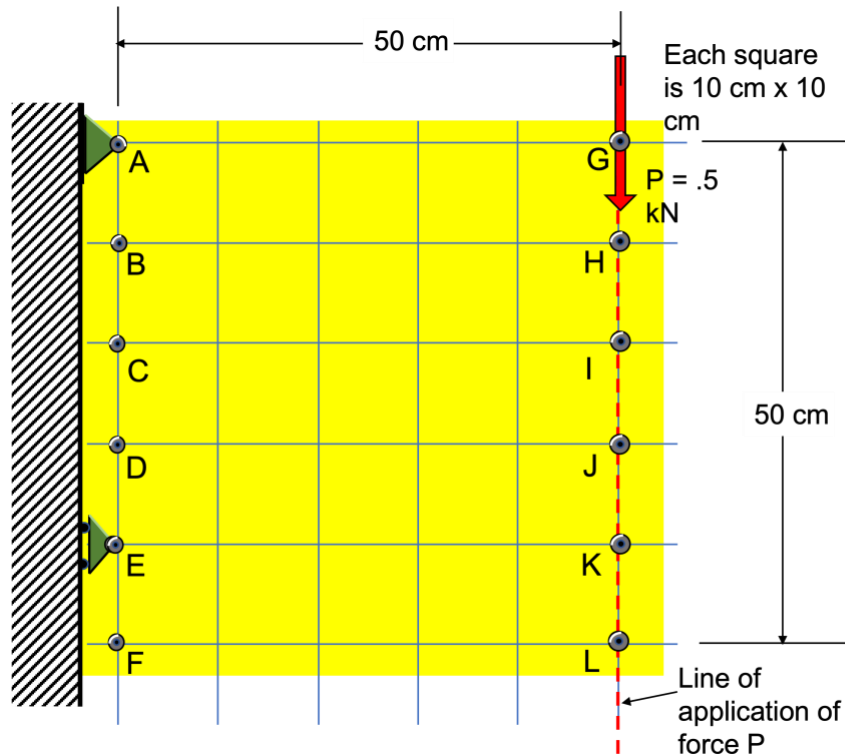

Figure 1 – Design envelope and truss grid.
1. The design envelope is the 50 cm by 50 cm grid shown in Fig 1.
3. Joints must be located only in correspondence of the grid points (Fig 1)
5. Support constraints (one fixed hinge and one roller) must be applied at joints A-F in Fig. 1. The fixed hinge must be positioned always above the roller.
6. A vertical force  $P = 0.5$  kN must be applied at a single joint along the line of application (joints G-L in Fig. 1). The force is applied at the top joint if more than one joints are located on the line of application.
To illustrate the design cycle, we refer to the sample truss based on a 60 cm by 50 cm grid shown in Figures 2, 3 and Tables 1, 2. Note, however, that because its dimensions exceed the design envelope given in Fig. 1, this particular configuration cannot be used for the present assignment.
- Each figure and table must be numbered and must have a caption. In the text, refer to a figure or table by its number (ex., Fig. 1, Tab. 3). Number the pages.